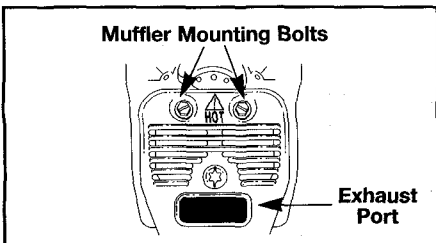

Fig. 37
The muffler should be removed **every 25 hours of operation** to inspect for excessive carbon build-up. Excessive deposits around the exhaust port (Fig. 37) or exhaust holes will cause poor engine performance.
1. Remove the muffler mounting bolts (Fig. 37).
2. Install the muffler with the muffler mounting bolts (Fig. 37) and torque the bolts to **80-90 in•lb (9-10.1 N•m)**.